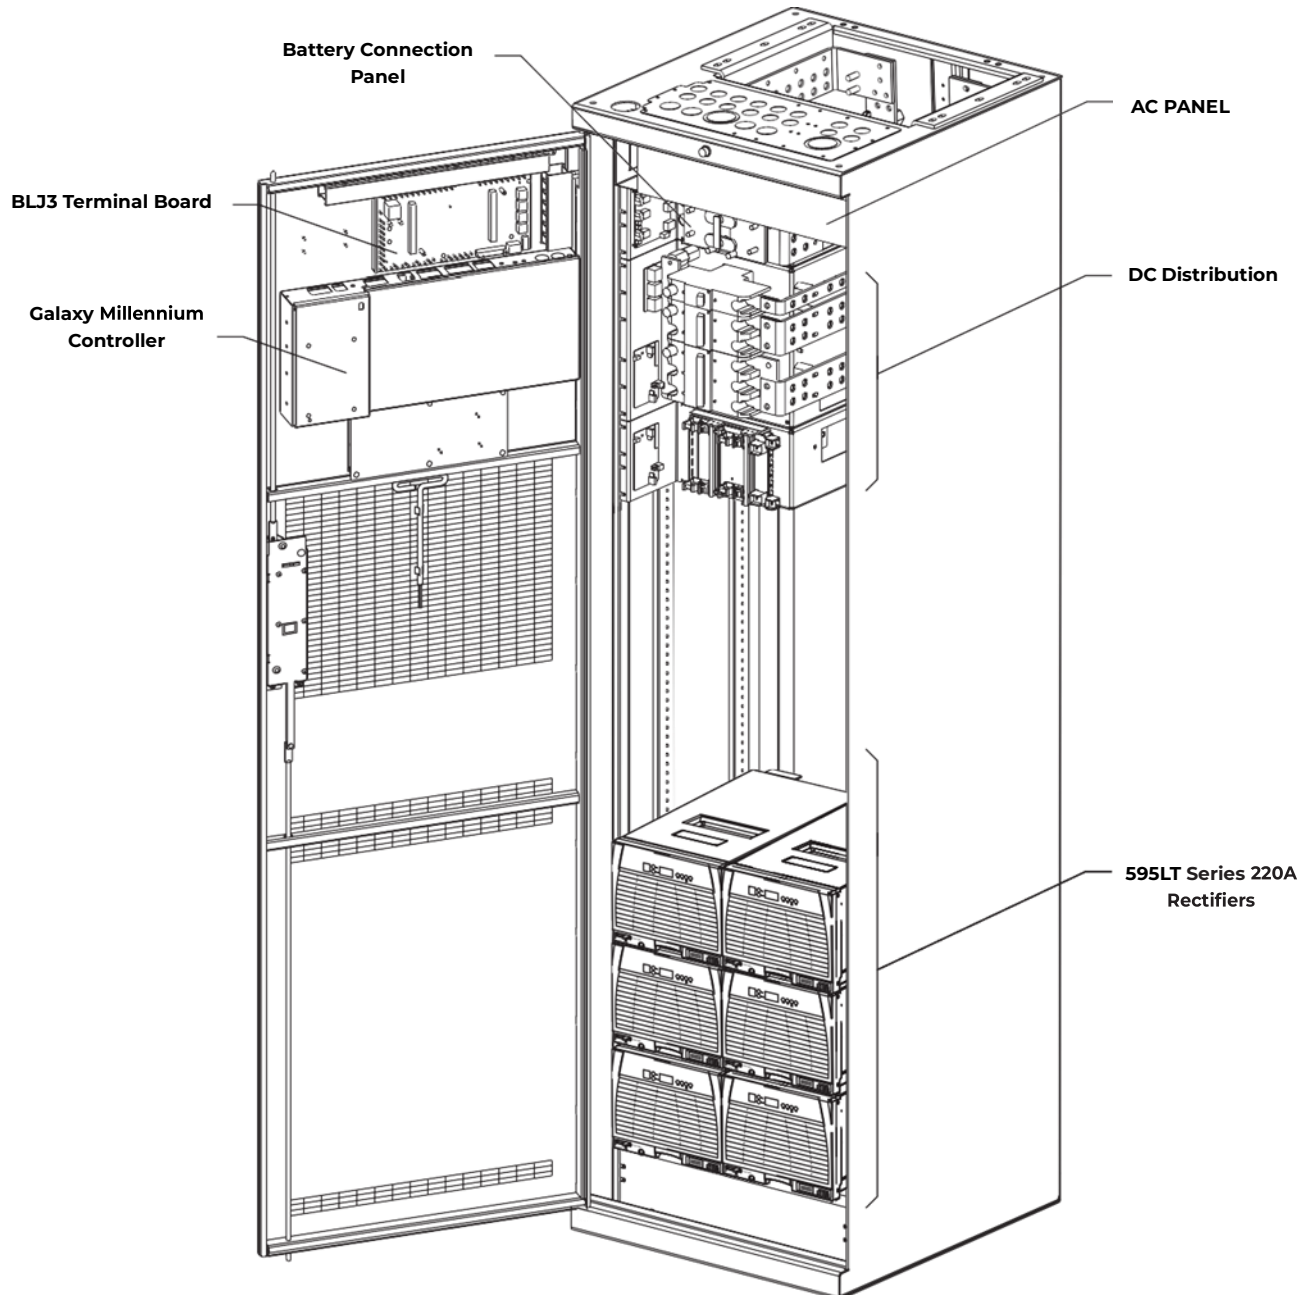

Figure 1-1: GPS 4848/100 With Millennium Controller
- Figure 1-1: GPS 4848/100 With Millennium Controller 14
Figure 1-1 is an isometric view of the GPS 4848/100 with a Millennium Controller.